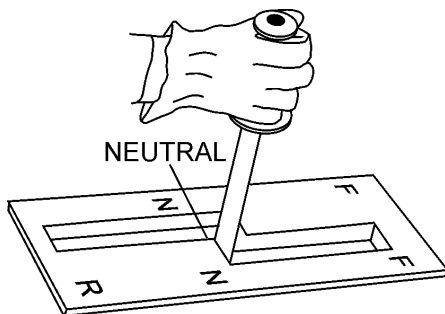

Figure 18. Shift Lever
4. Make sure that the roller's shift lever (Figure 18) is placed in the neutral position.